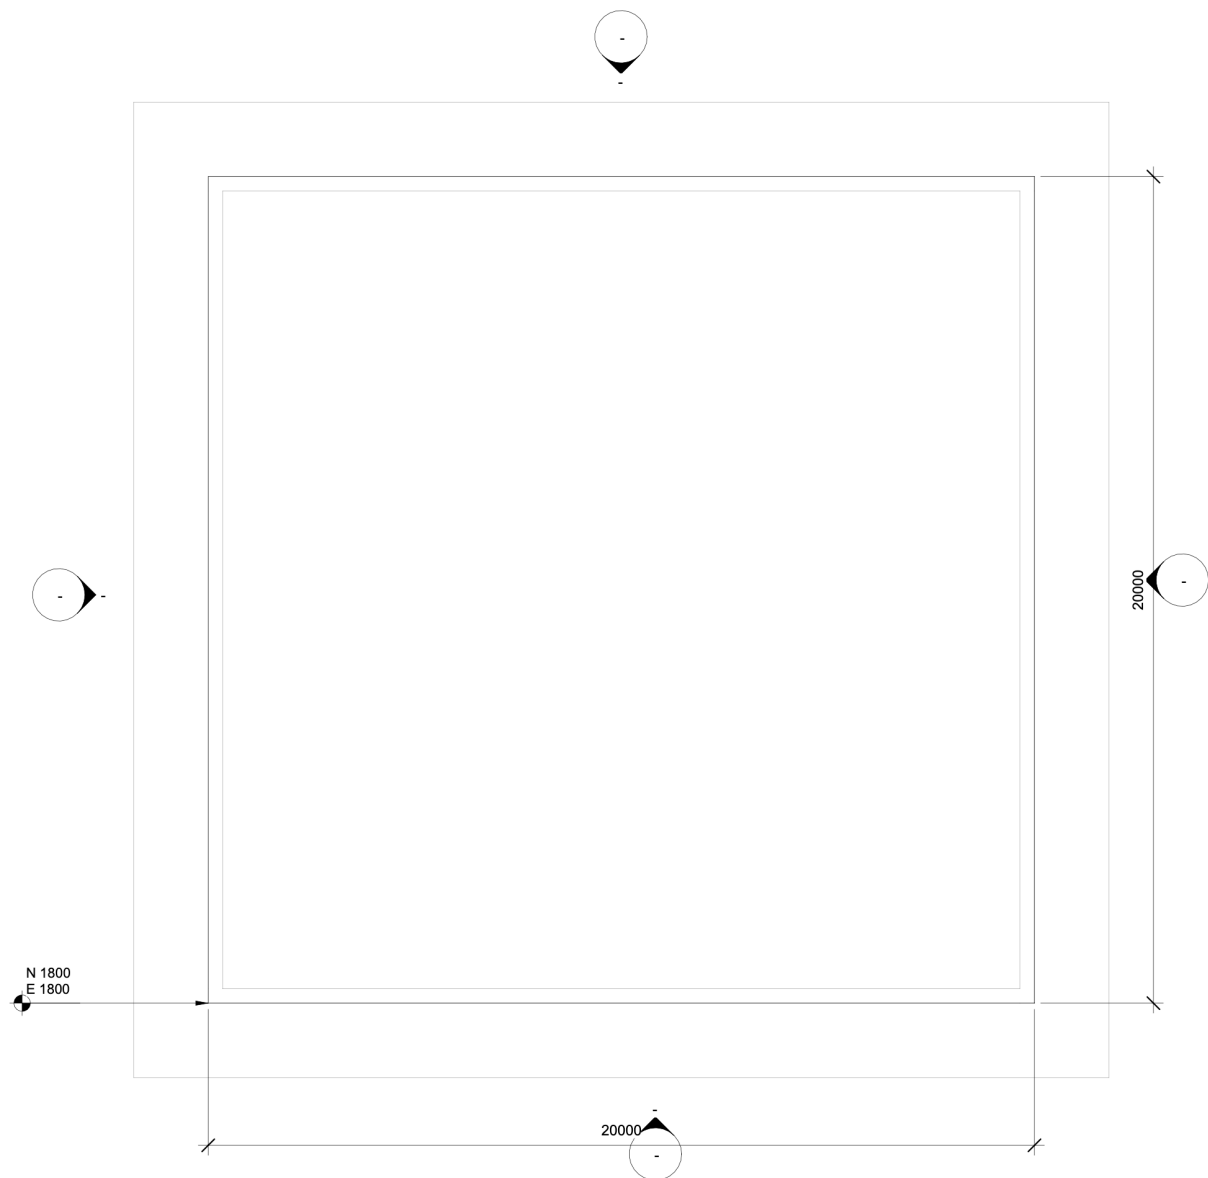

Figure 2 Top-down wireframe view with dimensions.
- Figure 2, which should be used to annotate leading edges in model A.